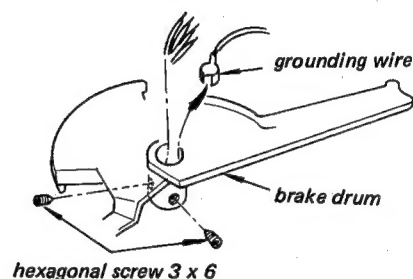

Fig. 2-8
3. Pull out the grounding wire as shown in Fig. 2-8.
4. Loosen two hexagonal screws, then remove the brake drum as shown in Fig. 2-8.